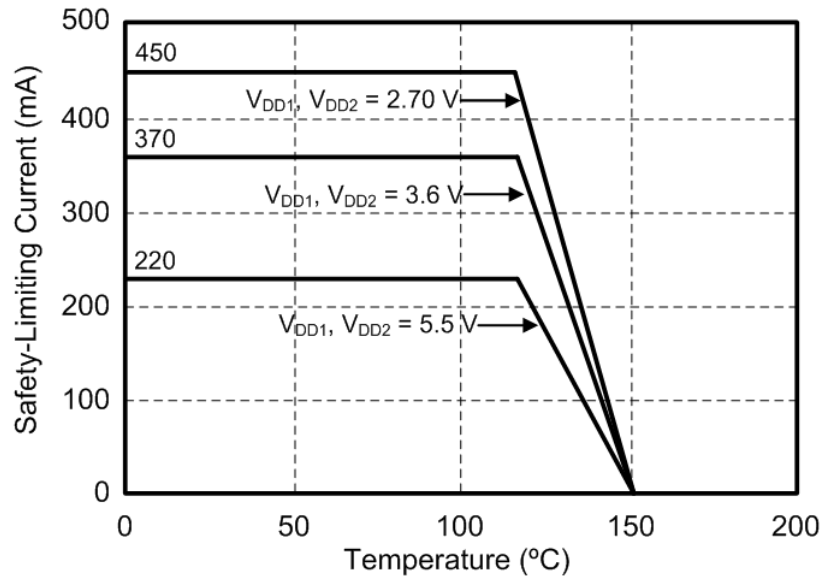
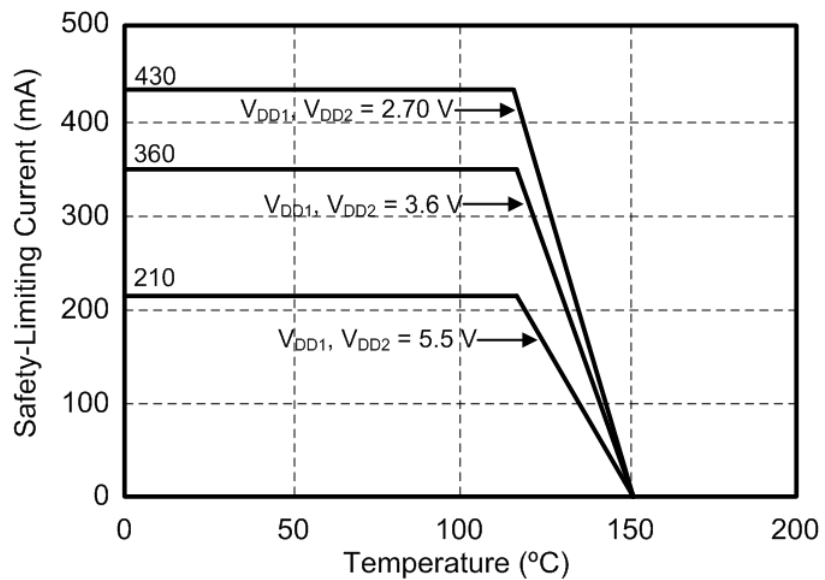

Figure 4.4. (WB SOIC-16) Thermal Derating Curve, Dependence of Safety Limiting Values with Case Temperature per VDE 0884-10
Figure 4.5. (NB SOIC-16, QSOP-16) Thermal Derating Curve, Dependence of Safety Limiting Values with Case Temperature per VDE 0884-10
1. Maximum value allowed in the event of a failure; also see the thermal derating curve in [Figure 4.4 \(WB SOIC-16\) Thermal Derating Curve, Dependence of Safety Limiting Values with Case Temperature per VDE 0884-10 on page 26](#) and [Figure 4.5 \(NB SOIC-16, QSOP-16\) Thermal Derating Curve, Dependence of Safety Limiting Values with Case Temperature per VDE 0884-10 on page 26](#).